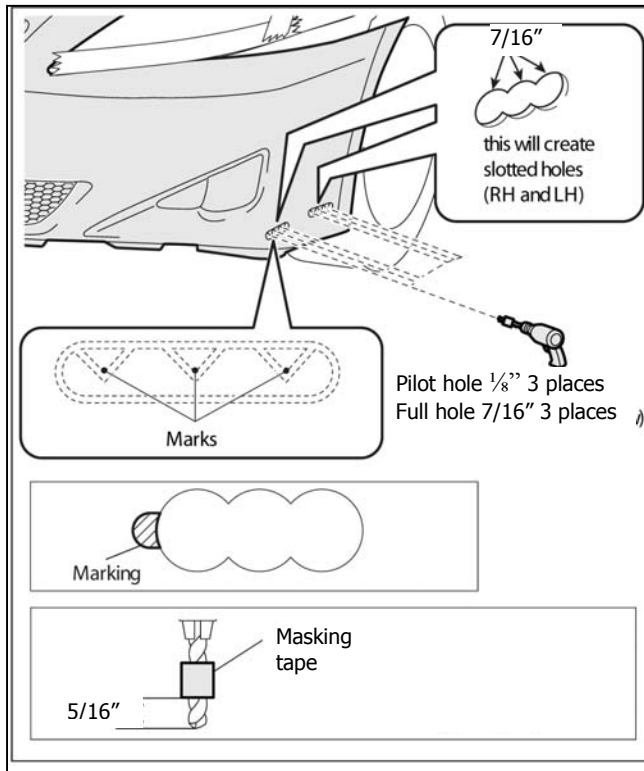

Fig. 5-2
- (3) Drill three 1/8" pilot holes at the six locations that you have marked with the pin. (Fig. 5-2)
- (4) Using a 7/16" hole saw, drill over the six holes (this will create two slotted holes).
- (5) Use a small file to remove burrs from the holes.
- (6) Repeat the operation on the RH side in the same manner.
- (1) To protect the front bumper cover and other parts from scratches while making the holes, wrap masking tape, which acts as a stop, around the drill at the positions shown in Figure 5-2).
- (2) If the marks remain after the holes have been made, use a small file to enlarge the holes.